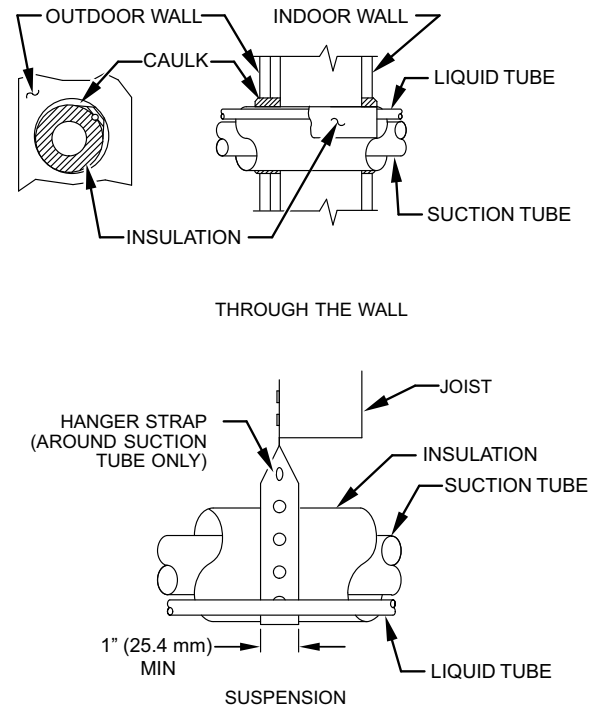

Fig. 1 – Connecting Tubing Installation
8. When passing refrigerant tubes through the wall, seal opening with RTV or other pliable silicon-based caulk (see Fig. 1).
10. Do not suspend refrigerant tubing from joists and studs with a rigid wire or strap which comes in direct contact with tubing (see Fig. 1).
12. When necessary, use hanger straps which are 1 in.(25 mm) wide and conform to shape of tubing insulation. (See Fig. 1.)